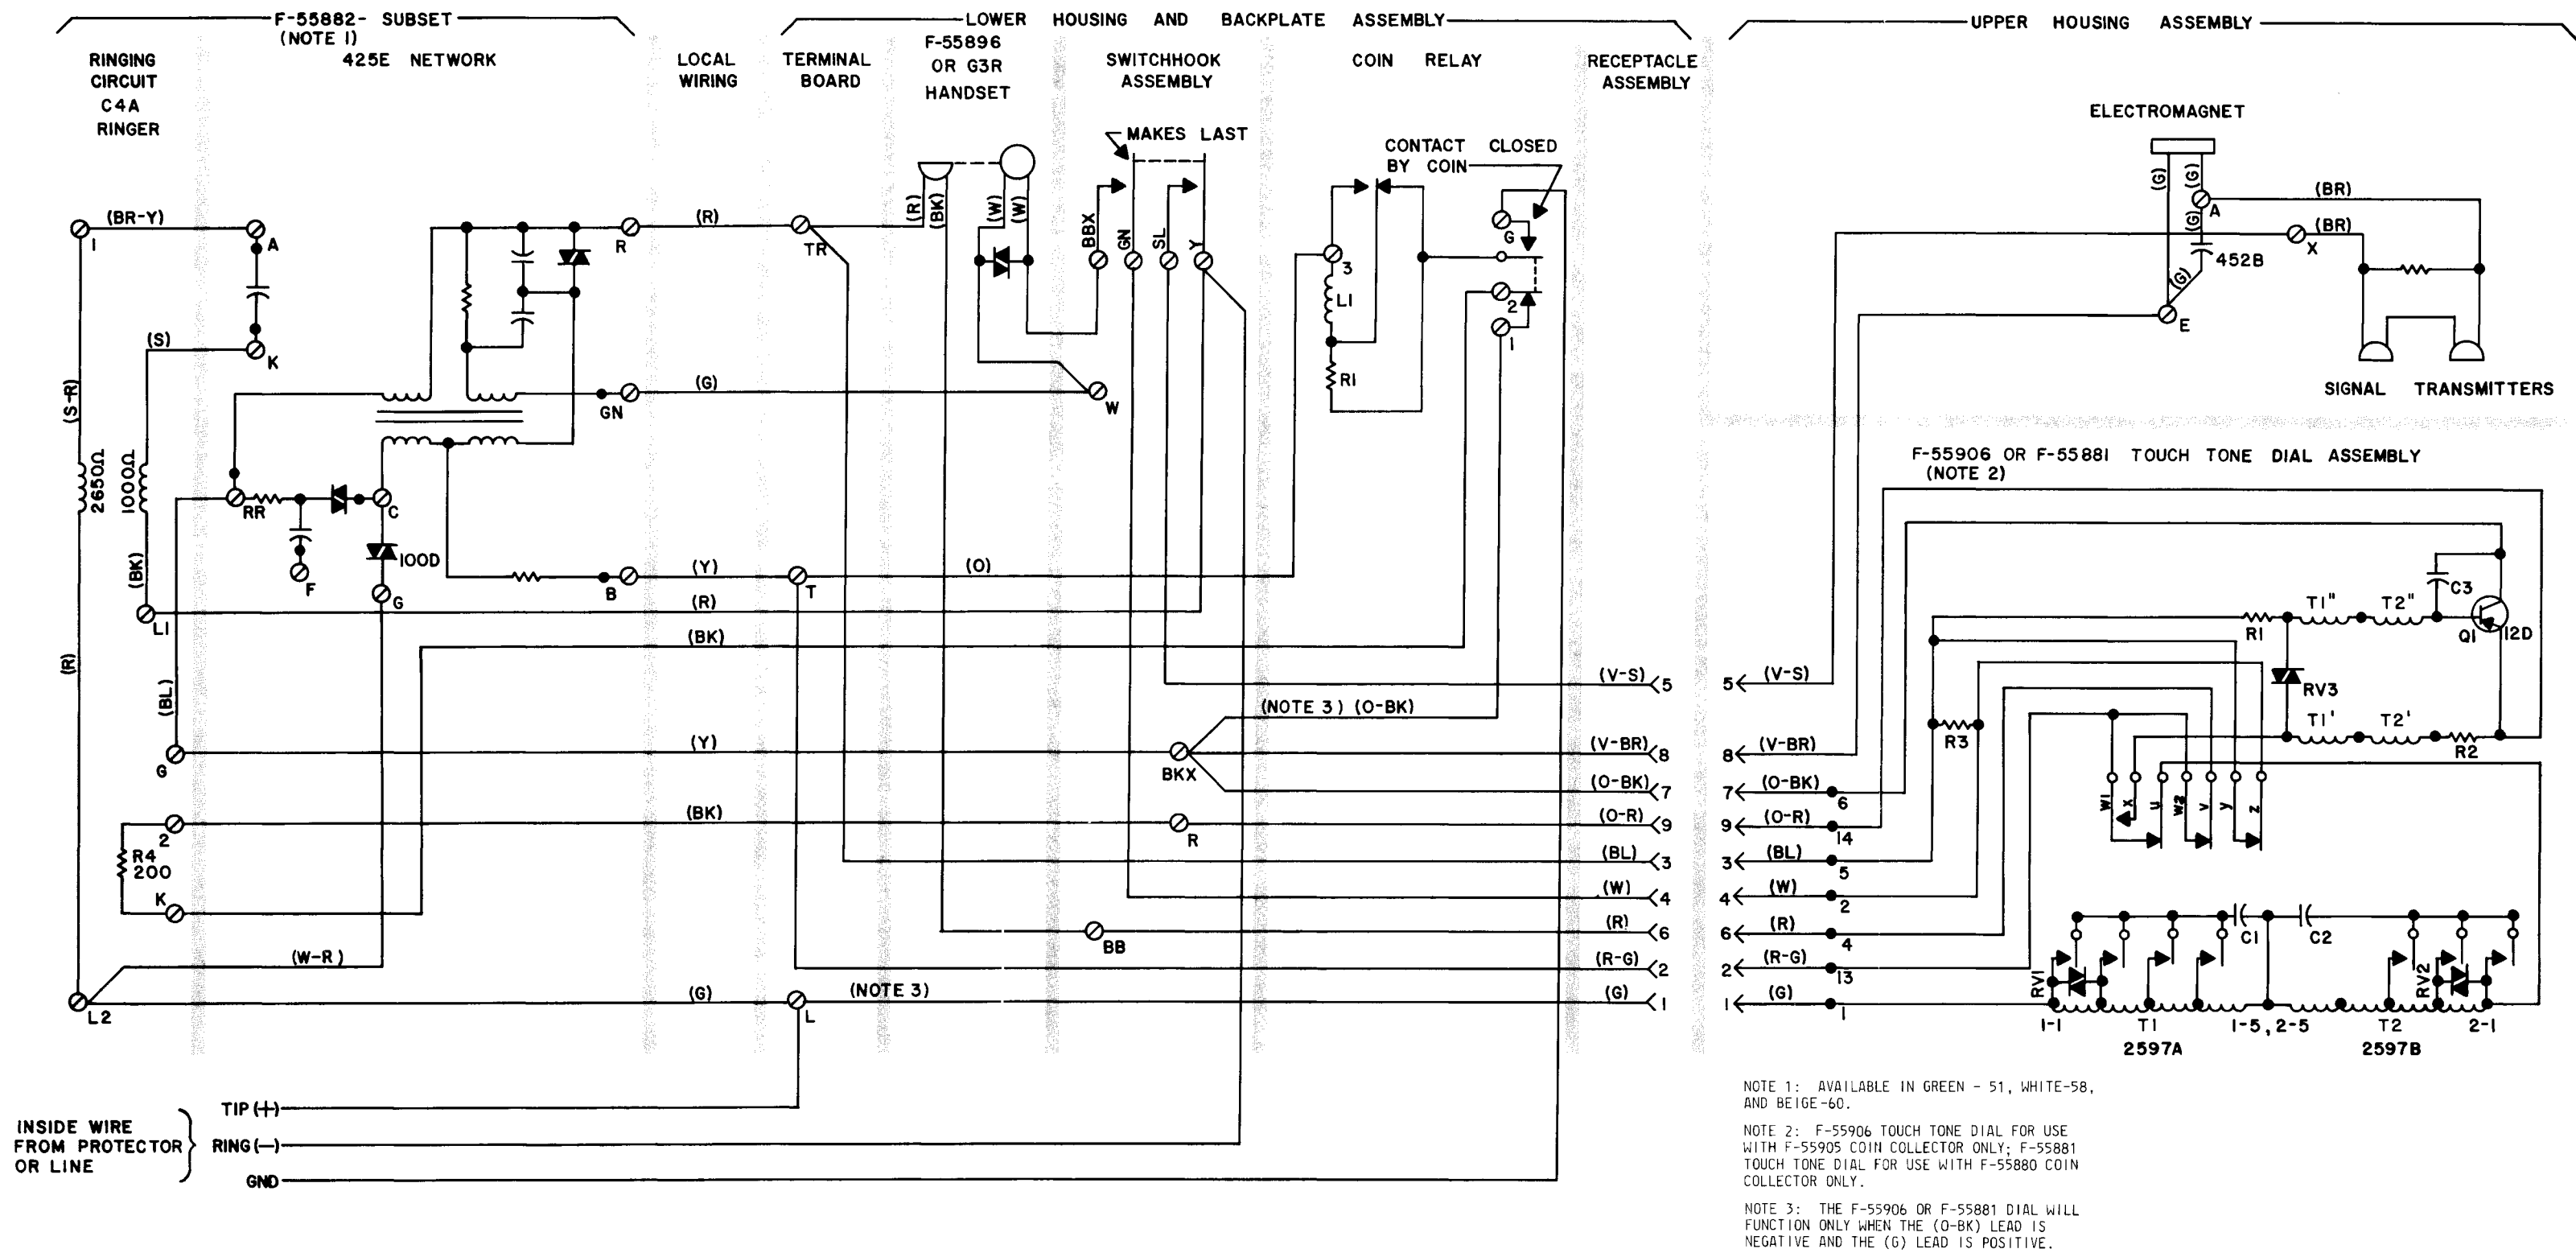

Fig. 3 - F-55880 and F-55905 TOUCH-TONE Dial Coin Collectors, Connections
5.01 Fig. 3 shows connections for the F-55880 and F-55905 TOUCH-TONE dial coin collector.